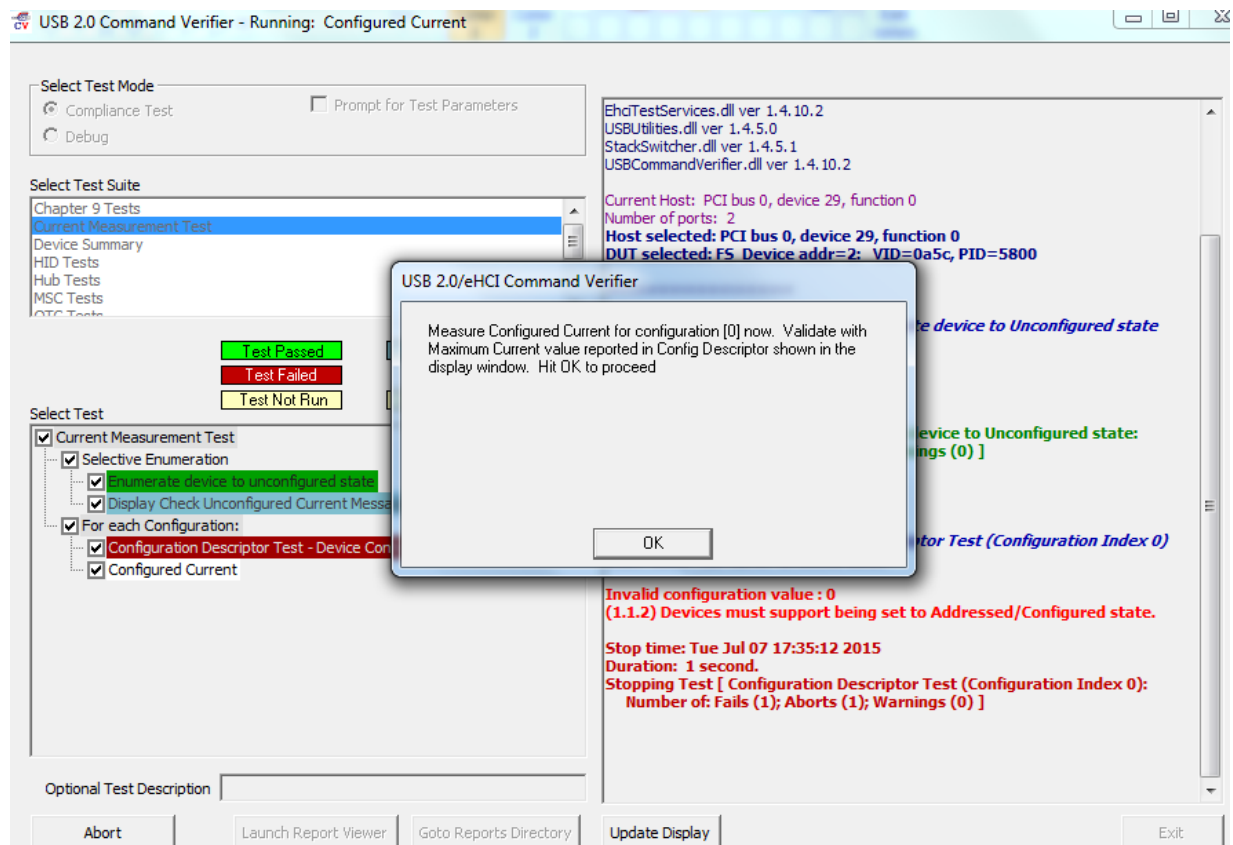

Figure 92. USB20CV Configured Current Measurement Test
6. Another pop-out dialog will ask you to measure the **configured current**, as shown in Figure 92.